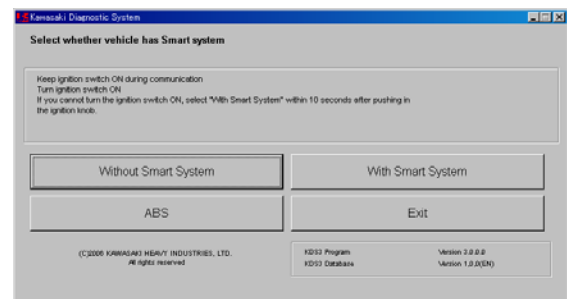

**Fig. 5-58 Registration Complete**
- When Fig. 5-58 appears select **OK**